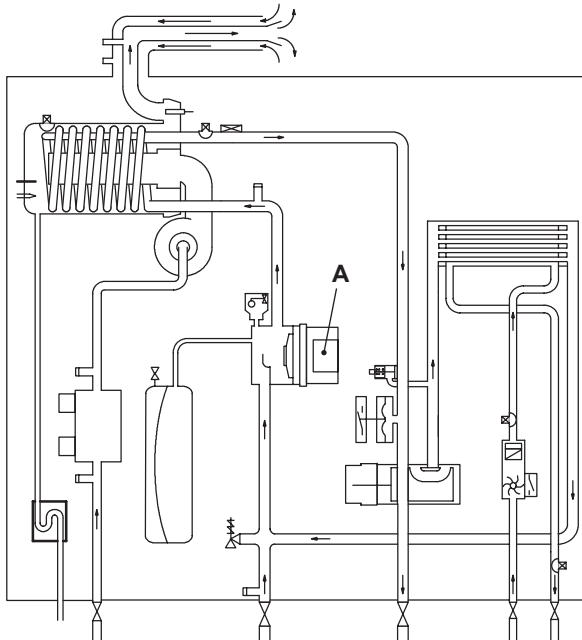
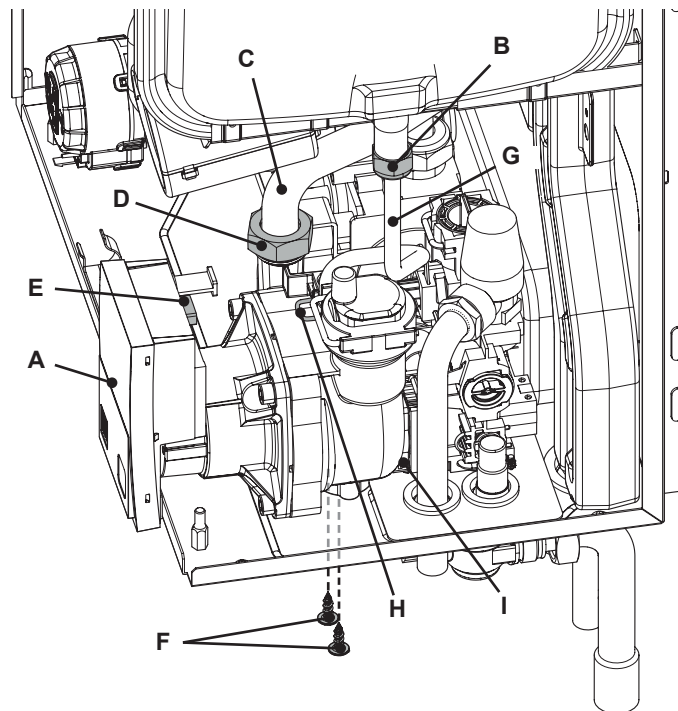

Figure 7.1
Figure 7.2
The pump "A" in Figure 7.1 and Figure 7.2 has the function of making the water in the main circuit circulate through the main condensing heat exchanger and therefore through the C.H. system (during the C.H. function) or through the secondary heat exchanger (during the D.H.W. function).
- 3 Disconnect the connector "E" (Figure 7.2).